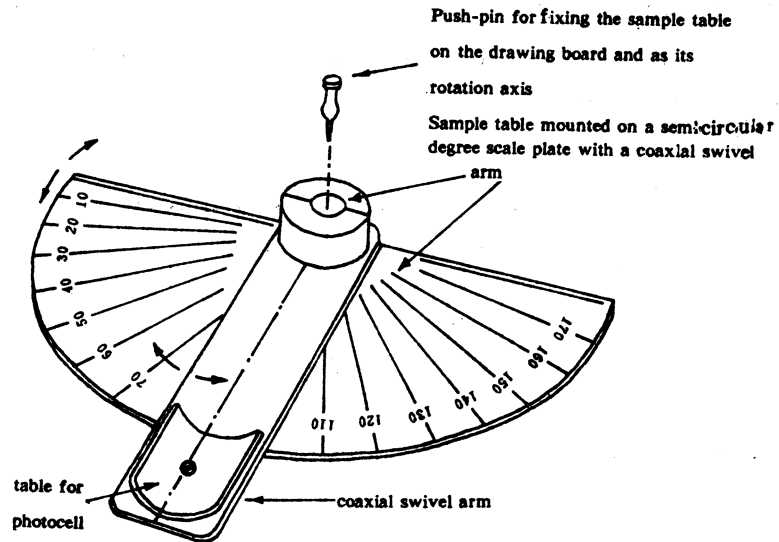

Fig.3 Sample table mounted on a semicircular degree scale plate
6. Sample table mounted on a semicircular degree scale plate with a coaxial swivel arm(Fig. 3).